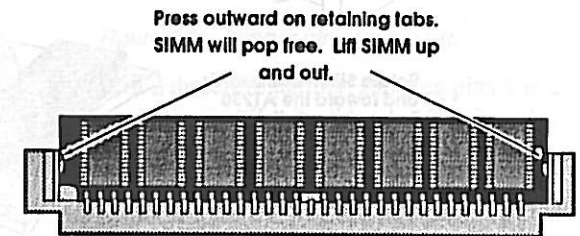

Figure 3.3 - A correctly installed SIMM.
2. Push the retaining tabs aside with your thumbs (as shown in Figure 3.3), and the SIMM should pop forward. It can then be lifted out.